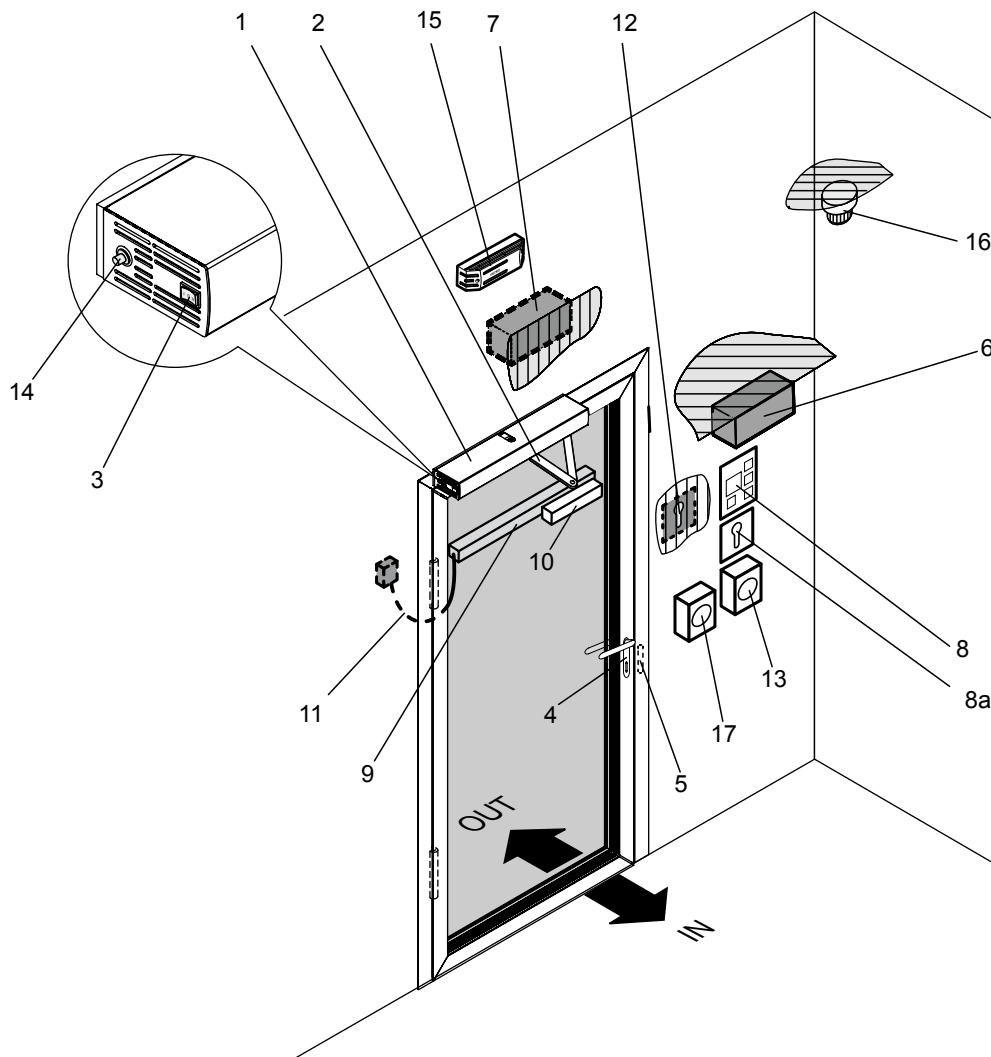

Fig.1 Example: Slimdrive EMD-F door drive for single door, fitted to frame
- The door drive can be fitted at the top rail of the door frame (fig 1) or, when door mounted, on the leaf of the door.